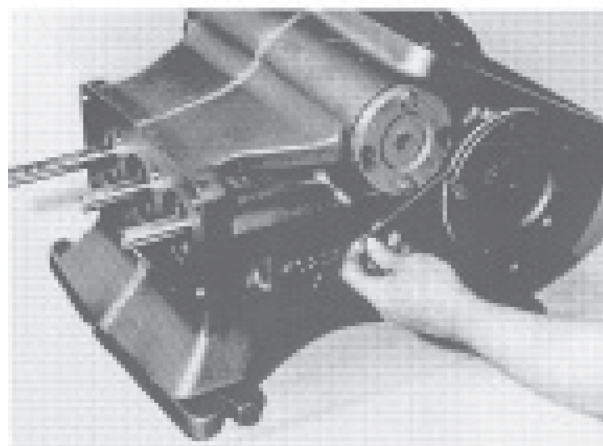

Fig. 13
- B. Install the left cap without shims; secure with two cap screws positioned exactly as shown in Fig.13. Torque the two cap screws at 13 foot pounds, rotate the crankshaft, retorquing the cap screws. Do this three times to properly seat the tapered roller bearings.